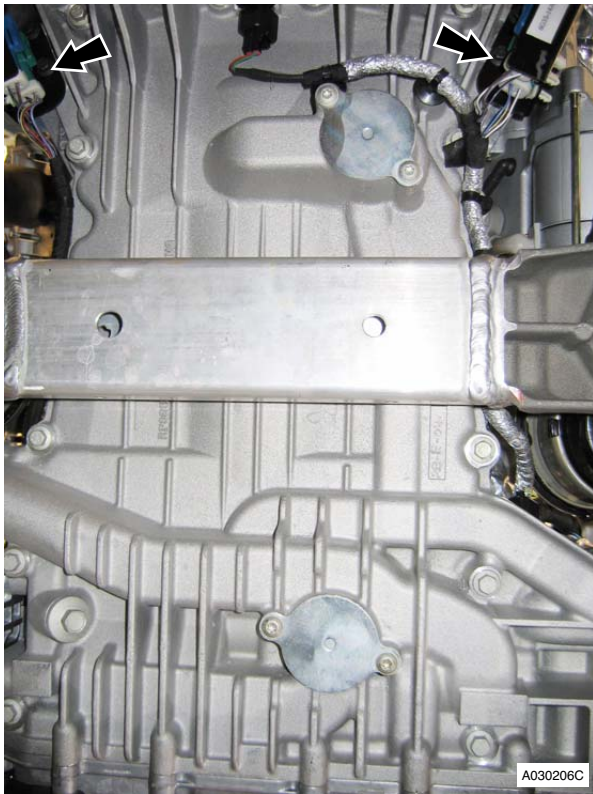

Figure 8
17. Remove bolts (x4) securing LH and RH HEGO sensor multiplug brackets to sump (see Figure 8).